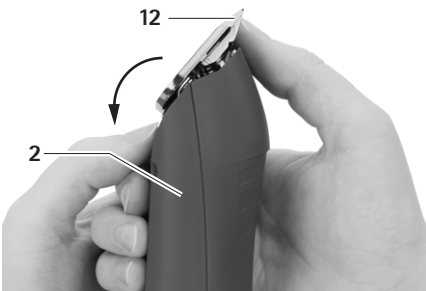

Fig. 5
- Fold forward blade 12, see Fig. 5.